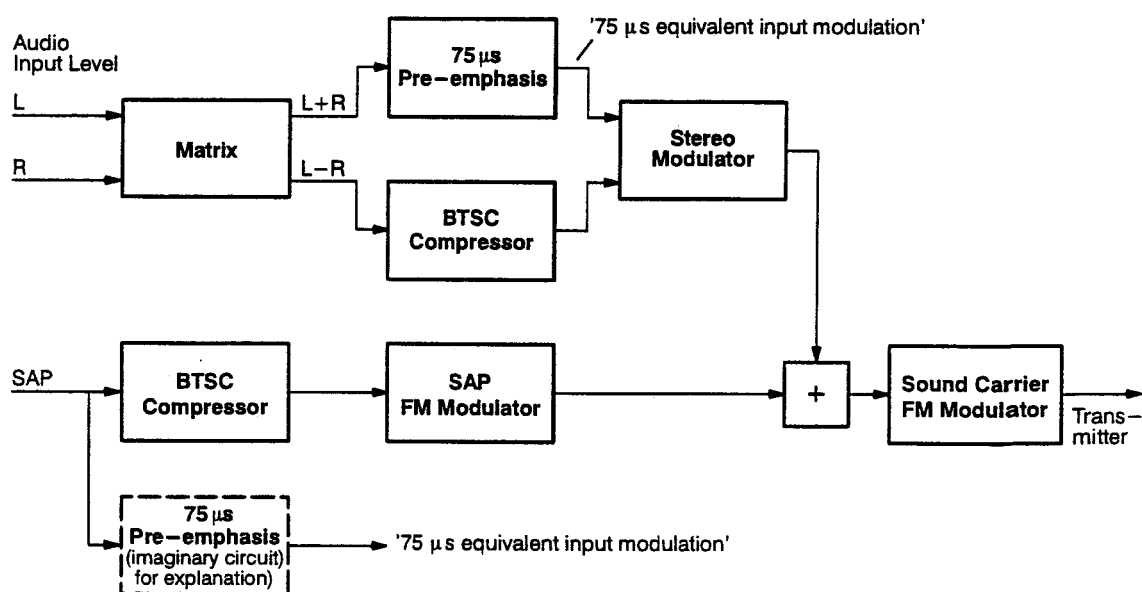

Fig. 2 Simplified Diagram of a BTSC Transmitter System
The broadband baseband spectrum is transmitted via frequency modulation on the sound carrier (4.5 MHz). Due to the parabolic noise characteristic, which is typical for FM transmission systems, the noise level increases for higher frequencies. To improve the Signal-to-Noise Ratio of the L-R signal and the SAP signal, both channels are encoded by the BTSC Compressor; see Figure 2.
Figure 2 shows a simplified diagram of a BTSC transmitter system. The BTSC modulation standards and the maximum allowed peak deviations are shown on the next page.
- The maximum allowed audio input level of 100 % modulation (100 % \triangleq 0 dB) is frequency dependent due to the 75 μ s pre-emphasis; see Figure 2.
This is used as a reference and determines the modulation level that would occur for the equivalent Mono signal processed via a 75 μ s pre-emphasis; see Figure 2.